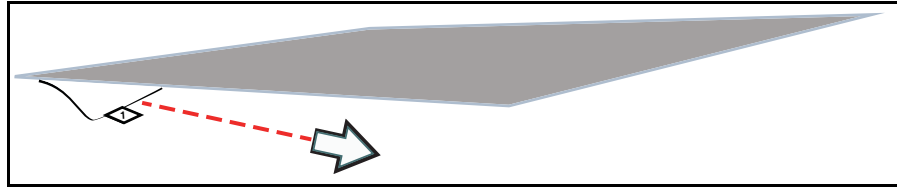

Figure 17-5 Removing rear mask
2. Remove the rear mask (Figure 17-5) from the screen protector.